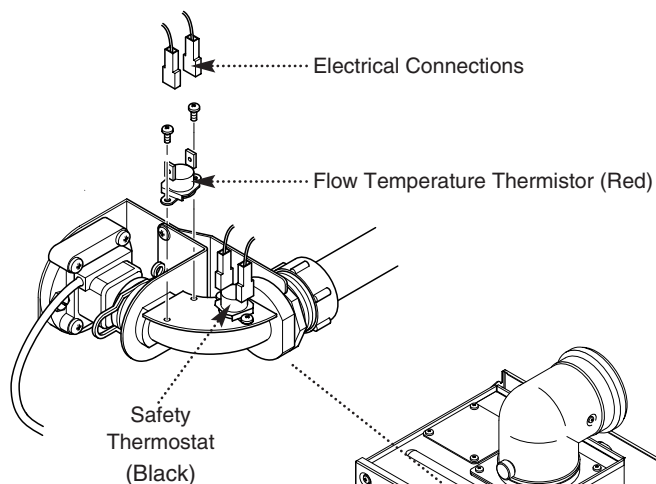

Fig. 46
13.2 Flow Temperature Thermistor and Safety Thermostat (Fig. 46).